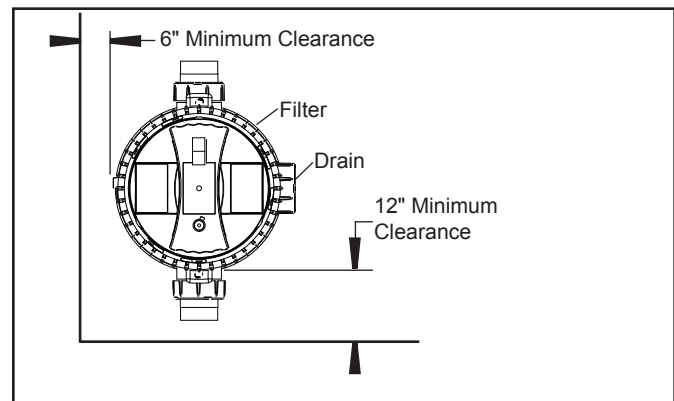

Figure 3. Filter Location - Top View
3. Install electrical controls at least five (5) feet from the filter. This will allow enough room to stand away from the filter during start-up.
4. Allow sufficient clearance around the filter to permit a visual inspection of the clamp ring (see Fig. 3).